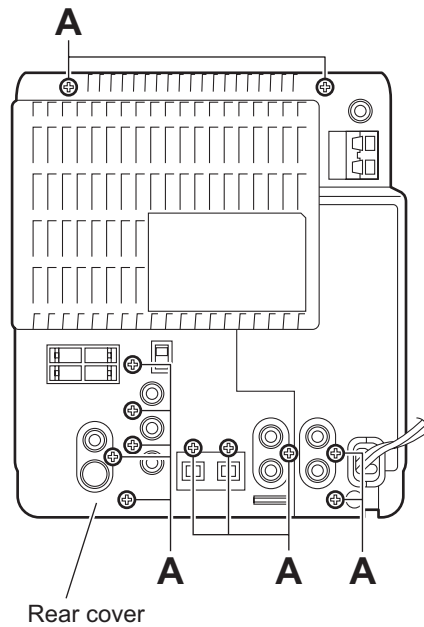

Fig.1
(See Figs.1 and 2)
- (1) From the back side of the main body, remove the twelve screws **A** attaching the rear cover. (See Fig.1.)